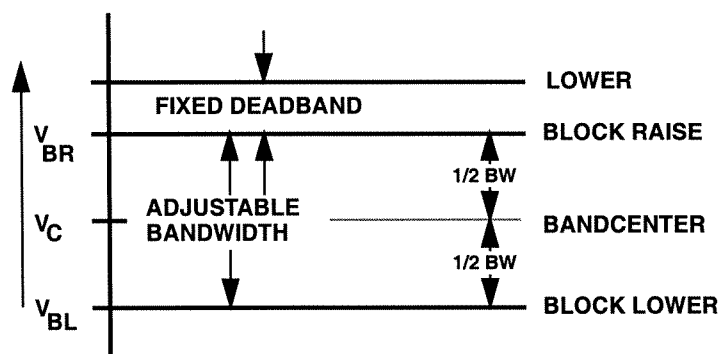

FIGURE 1 Setpoint Voltage Levels
Figure 1 Setpoint Voltage Levels	1
3. Lower the voltage if the regulated voltage goes above the Block Raise setpoint by a fixed bandwidth, as shown in Figure 1.